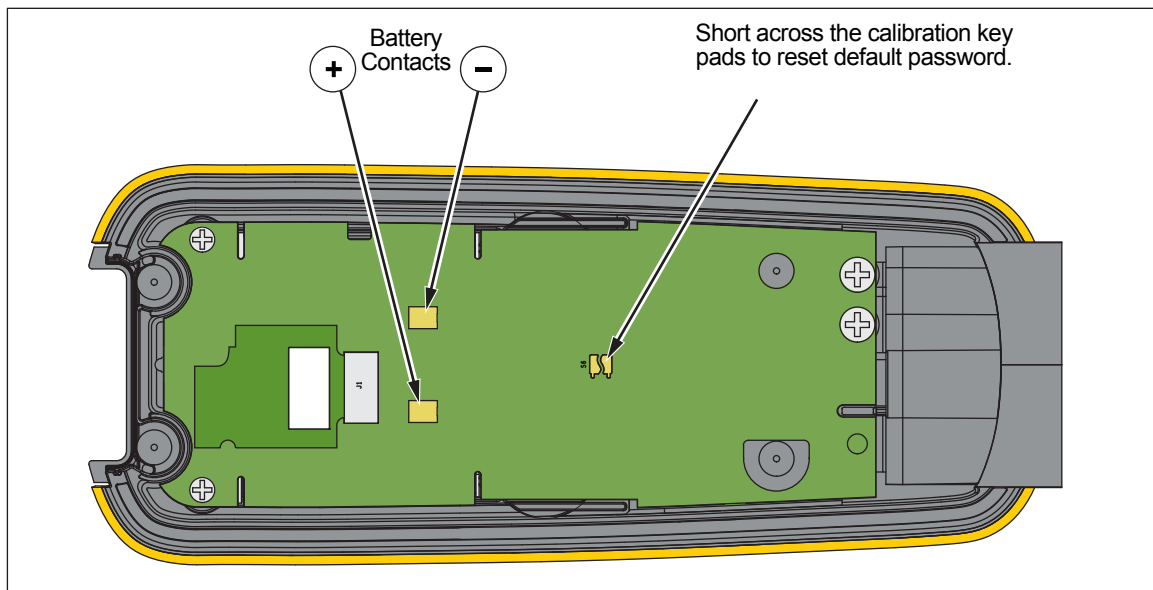

Figure 3. Calibration Password Rest
Note the polarity that is shown in Figure 3.
6. Short across the calibration key pads on the PCA. See Figure 3.